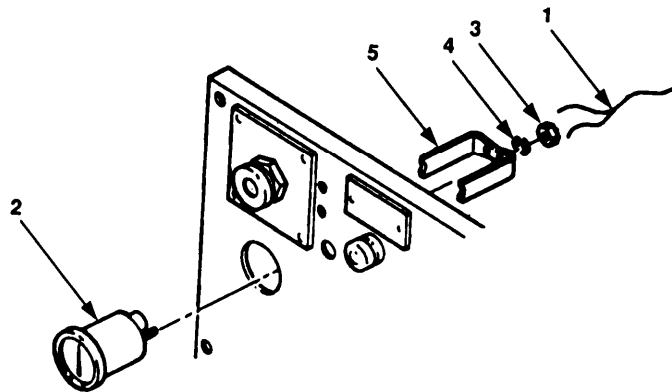

Figure 4-45. Oil Pressure, Ammeter, and Tachometer/Hourmeter Replacement.
- a. Tag and disconnect wires (figure 4-45, 1) from gauge (2).
- b. Remove two nuts (3), lockwashers (4), and retaining bracket (5) from gauge at back of control panel.
- c. Remove gauge (2) from front of control panel.
- a. Install gauge (2) through front of control panel.
- b. Install retainer bracket (5) and lockwashers (4) on gauge at back of control panel.
- c. Install nuts (3) on to gauge (2) and tighten.